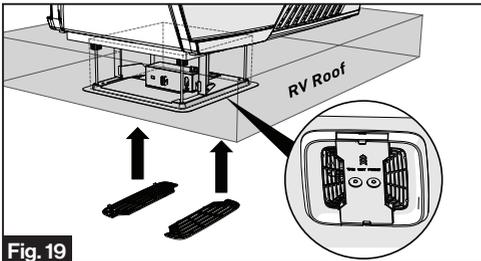

Fig. 19
20. Align the filter tabs with mating notches and push to snap the filters into the ADB shroud. (Fig. 19)